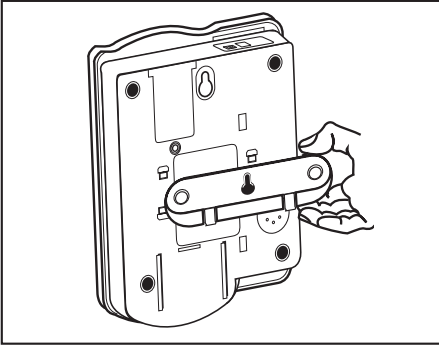

Fig. 5 – Phone base installation for wall mounting
2. Insert the tabs of the phone base into the slots in the lower position of the base. Push in and down firmly until it snaps into place as shown in figure 5.